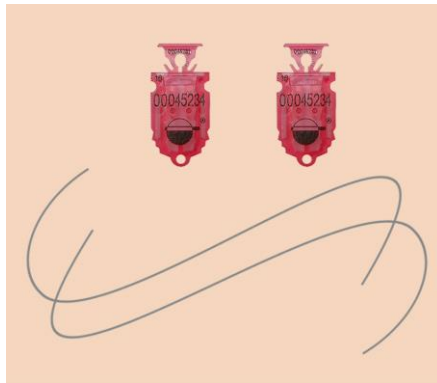

Figure 34 — Disposable plastic seals and sealing cord*
It is strongly recommended to seal the connector of the sensor and the points of cable wires connection with optional sealing cords and disposable plastic seals (to be purchased separately) to prevent unauthorized interference into GNOM operation (see figure 34).
* Design of the seal supplied can differ from the one displayed in figure 34.